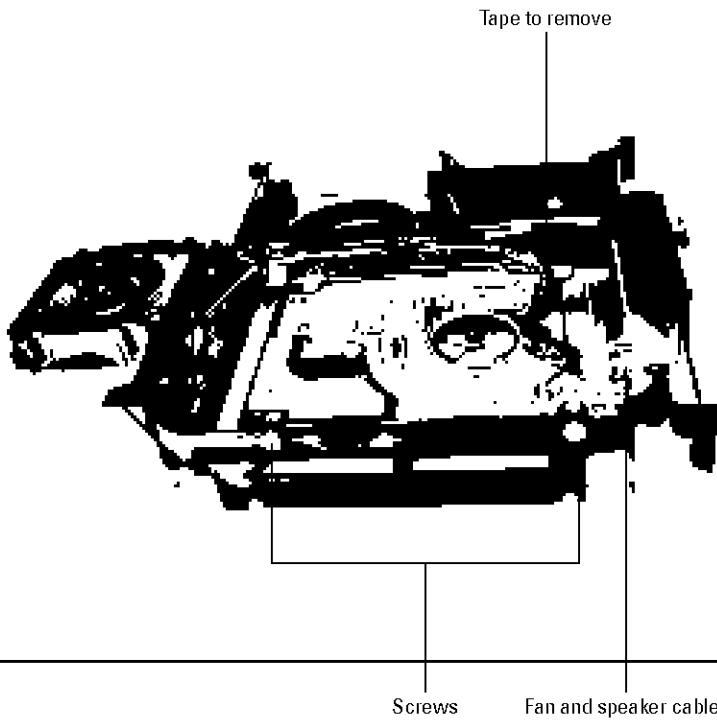

Figure 7-7:
5. Flip the fan to the left, as shown in Figure 7-7.
The spot where the cables plug into the interconnect board is shown in the lower-right corner of Figure 7-7.
7. Remove the yellow tape (shown in Figure 7-7) that attaches the cables to the hard drive.
8. Using a #1 Phillips screwdriver, remove the two hard drive screws on the black internal frame, as shown in Figure 7-7.
These screws are shown in Figures 7-7 and 7-8.
- 5. Fasten the cables to the hard drive with the yellow tape that you previously removed, as shown in Figure 7-7.**